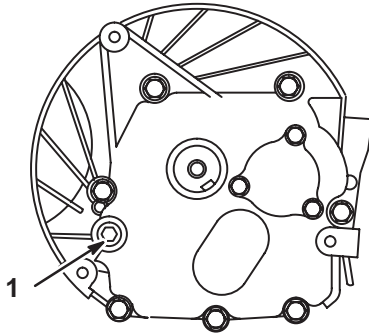

Fig. 2 – Drain Plug Location
2. Remove oil drain plug (Fig. 2). Drain oil into a pan.